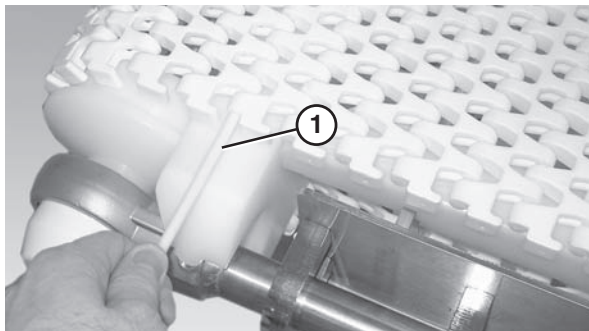

Figure 38
6. Insert the belt rod (**Figure 38, item 1**).